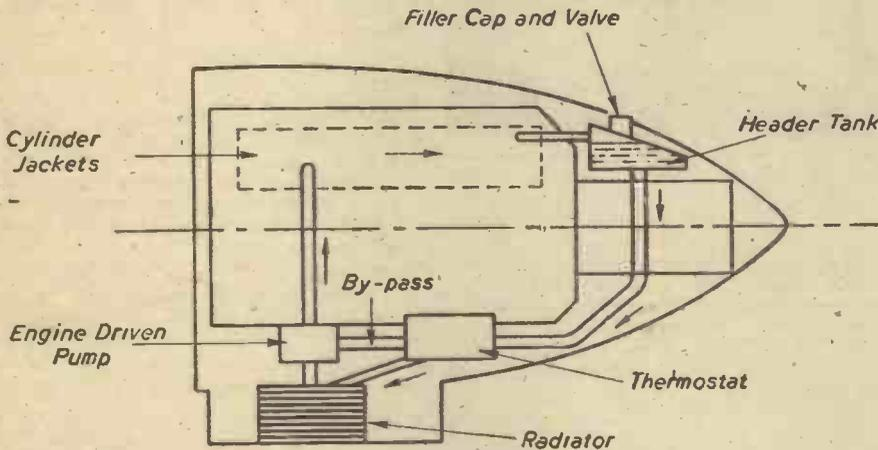

Fig. 1.—Typical liquid-cooled system.
Fig. 1 illustrates diagrammatically the layout of a typical liquid-cooled engine and the attendant accessories. The main items of equipment are as follow: (1) radiator, (2) coolant tank, (3) circulating pump, (4) thermometer, (5) engine jacket, (6) connecting pipes.
From Fig. 1 it will be noted that the coolant reservoir or header tank, as it is usually